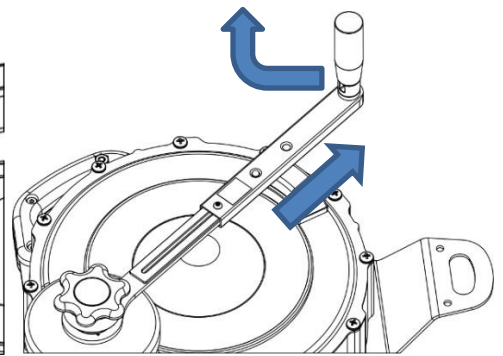

Figure 4
3. Flip the crank grip up 90 degrees until it is locked in position, and extend the crank grip into either the first position for faster cranking, or the second position for heavier loads. See figure 4.